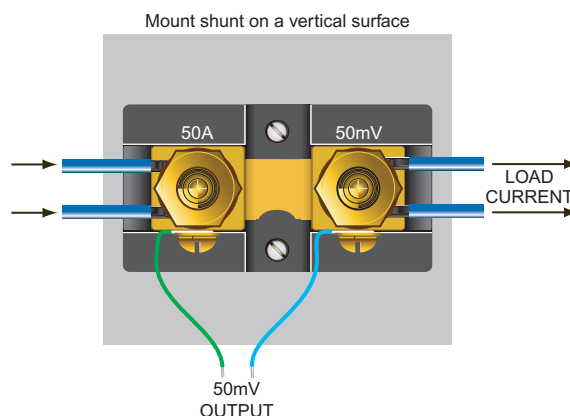

Figure 1. Typical installation
- 2. Mounting Considerations:** All shunts should be mounted with their resistance blades in a vertical position to allow for natural convection cooling (see Figure 1). Forced-air cooling must be provided when vertical mounting is impractical, or in installations where the shunt is installed in a confined location. The shunt's manganin blades must never be allowed to exceed $+125^\circ\text{C}$; doing so will cause permanent damage to the shunt.
Whenever practical, all shunts should be connected in the grounded side (normally the 'chassis') of the dc supply. However, these shunts must be connected in the grounded side of the circuit when the dc supply exceeds 750 volts (the rated limit for the shunt's phenolic insulating base). When more than one wire is to be connected to each end of a shunt, the wires must be evenly distributed between both terminals (see Figure 1).